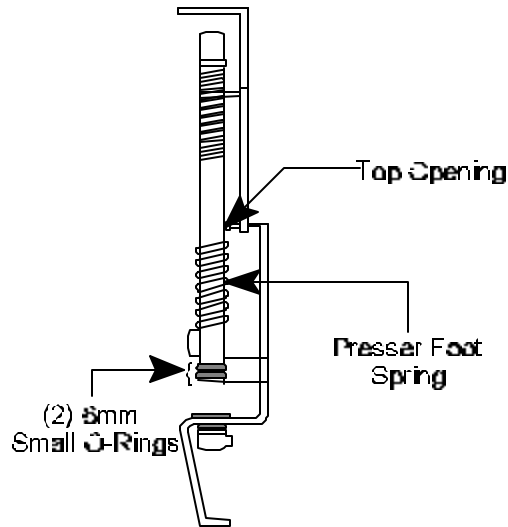

Figure 9
23. While holding new Presser Foot in one hand slide Needle Bar through top opening approximately 1 inch. See *Figure 9*.
24. **Slide** two 6 mm O-rings onto shaft of Needle Bar. See *Figure 9*.
25. **Replace** Presser Foot Spring. See *Figure 9*.